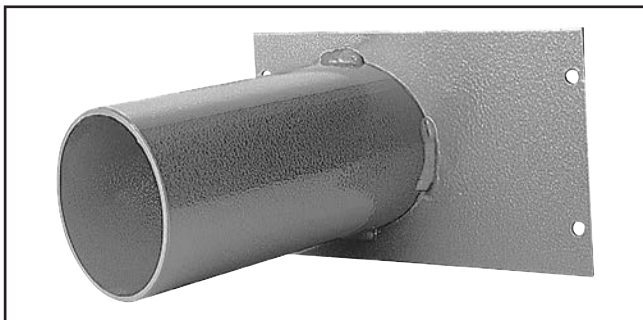

Figure 26. The Model G4840 dust hood. (Check with the current Grizzly catalog or www.grizzly.com to purchase.)
1. Connect the optional Model G4840 (see **Figure 26**) to the back of the fence assembly, then fit a 3" dust hose over the dust hood and secure in place with a hose clamp.